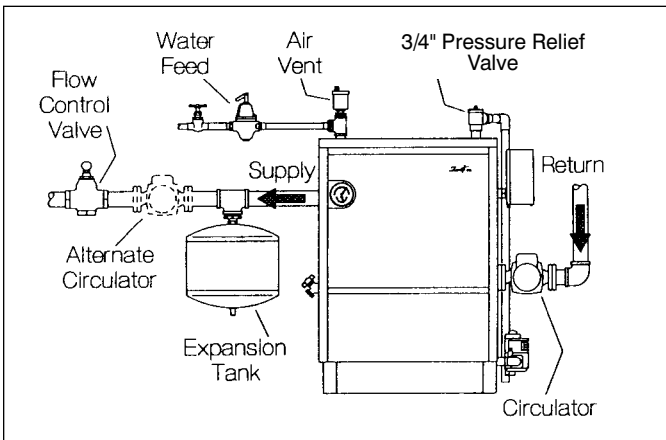

Figure 9. Piping arrangement
- A. DIAPHRAGM EXPANSION TANKS are used to control system pressure in an AIR ELIMINATING SYSTEM: an automatic air vent is used to REMOVE air from the system water. See figure 9. If system pressure needs further control, add an additional tank or install a larger capacity tank. Locate the tank near the boiler, as illustrated. An automatic air vent should be installed in the top of the boiler or air purger. See figure 9.